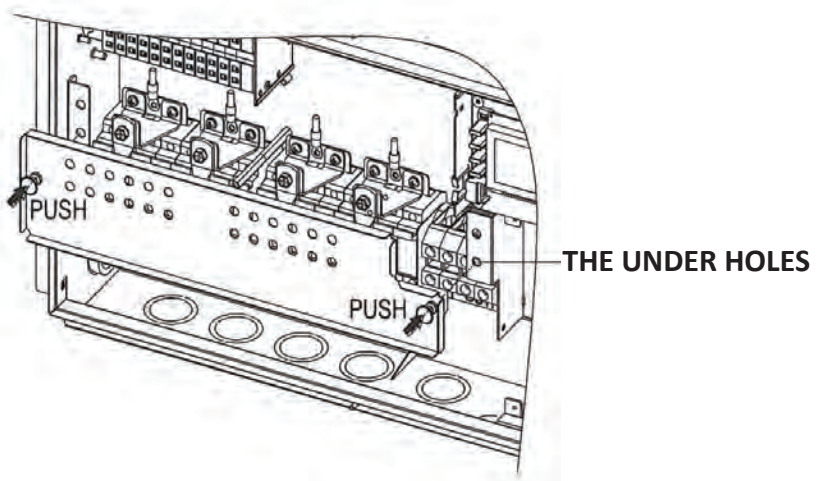

Figure A-6
4. Use No. 10 wrench to screw DC input cable on the bypass input terminals, torque value of 6.0N.m. (see Figure A-6)